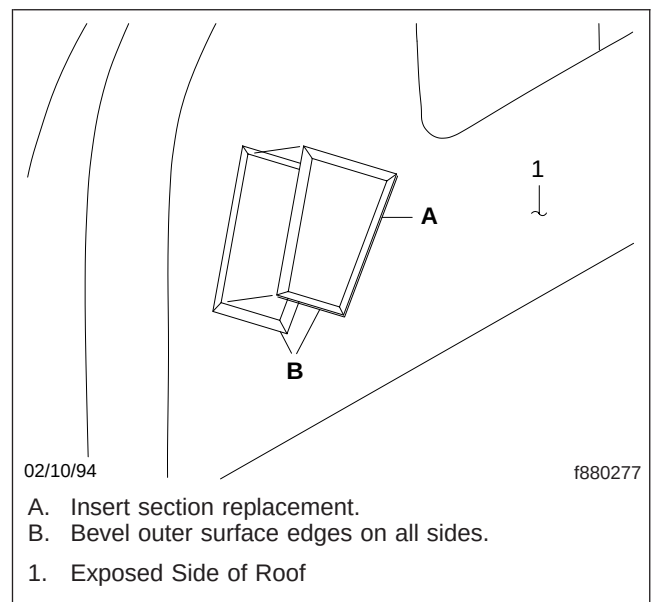

Fig. 9, Areas to be Beveled
- On the outer sides of both the cutout and the section replacement, bevel the edges about 45 degrees; see Fig. 9.